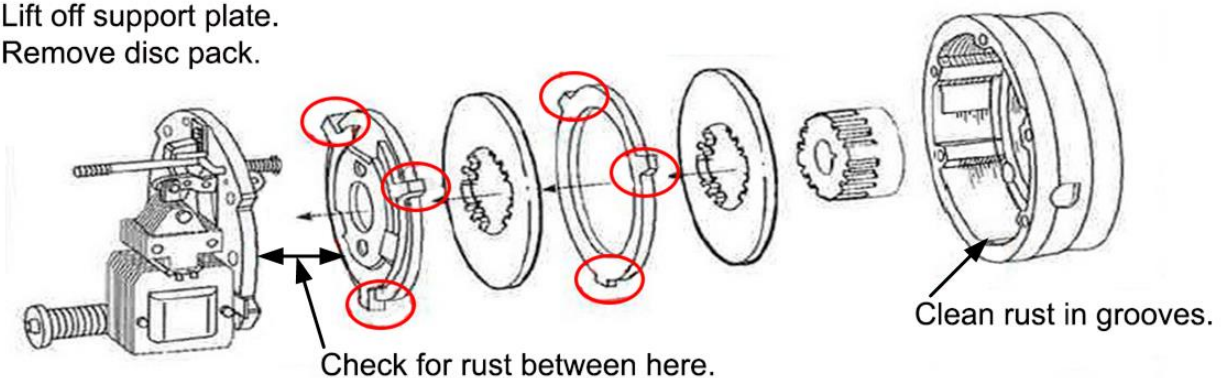
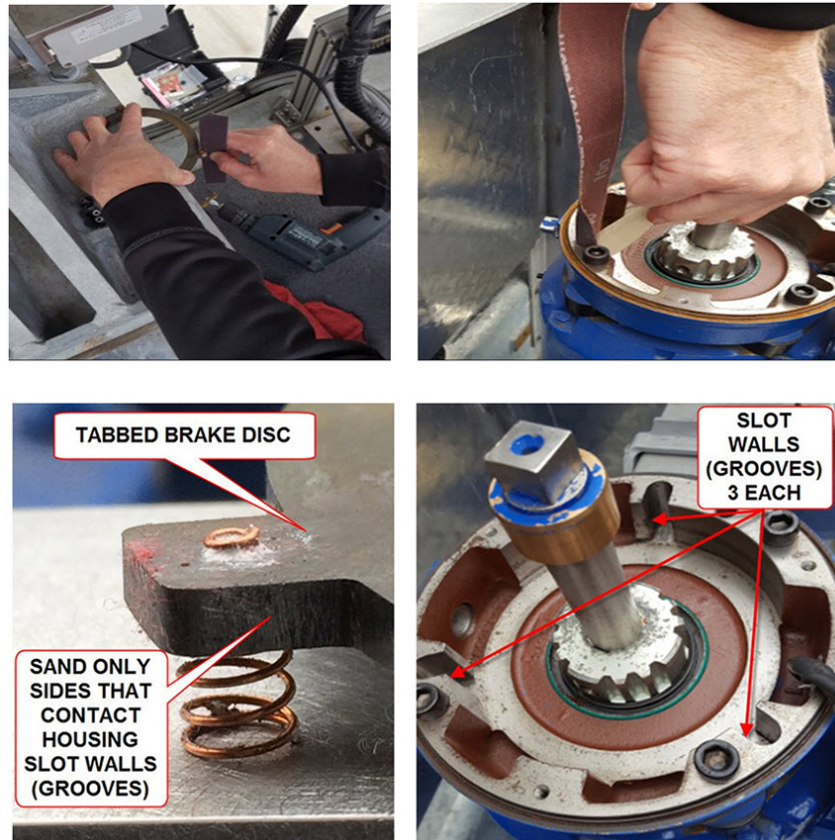
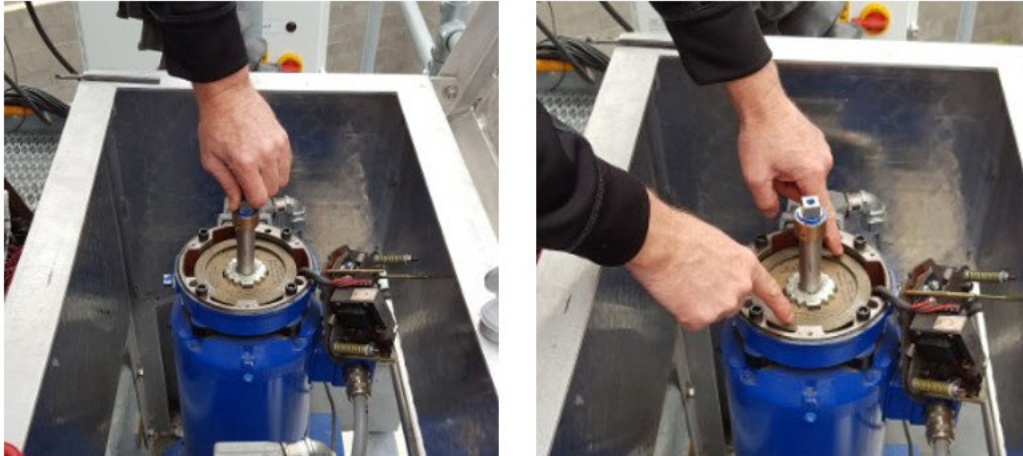

Figure 4-8: Tabbed Discs - Part 1
Figure 4-9: Tabbed Discs – Part 2
Figure 4-11: Reinstalling Disc Pack
10. Remove any surface rust with an emery cloth on only the sides of the tabs on the tabbed discs (with springs) that contact the slot walls. **CAUTION: Be very careful not to break the springs off the disc.** Then use a wood-handled brush with the emery cloth and clean any surface rust from the slot walls (grooves). See Figure 4-8 and Figure 4-9.
13. Place the disc pack back into the housing in the same order that you removed it (see Figure 4-8). Note that the spring side of the tabbed discs go toward the motor. The motor shaft should turn freely with only gearing resistance present (i.e., more resistance in the direction the gearing winds up and less in the direction the gearing unwinds). Push down on the disc pack to make sure the disc pack moves up and down freely. See Figure 4-11.